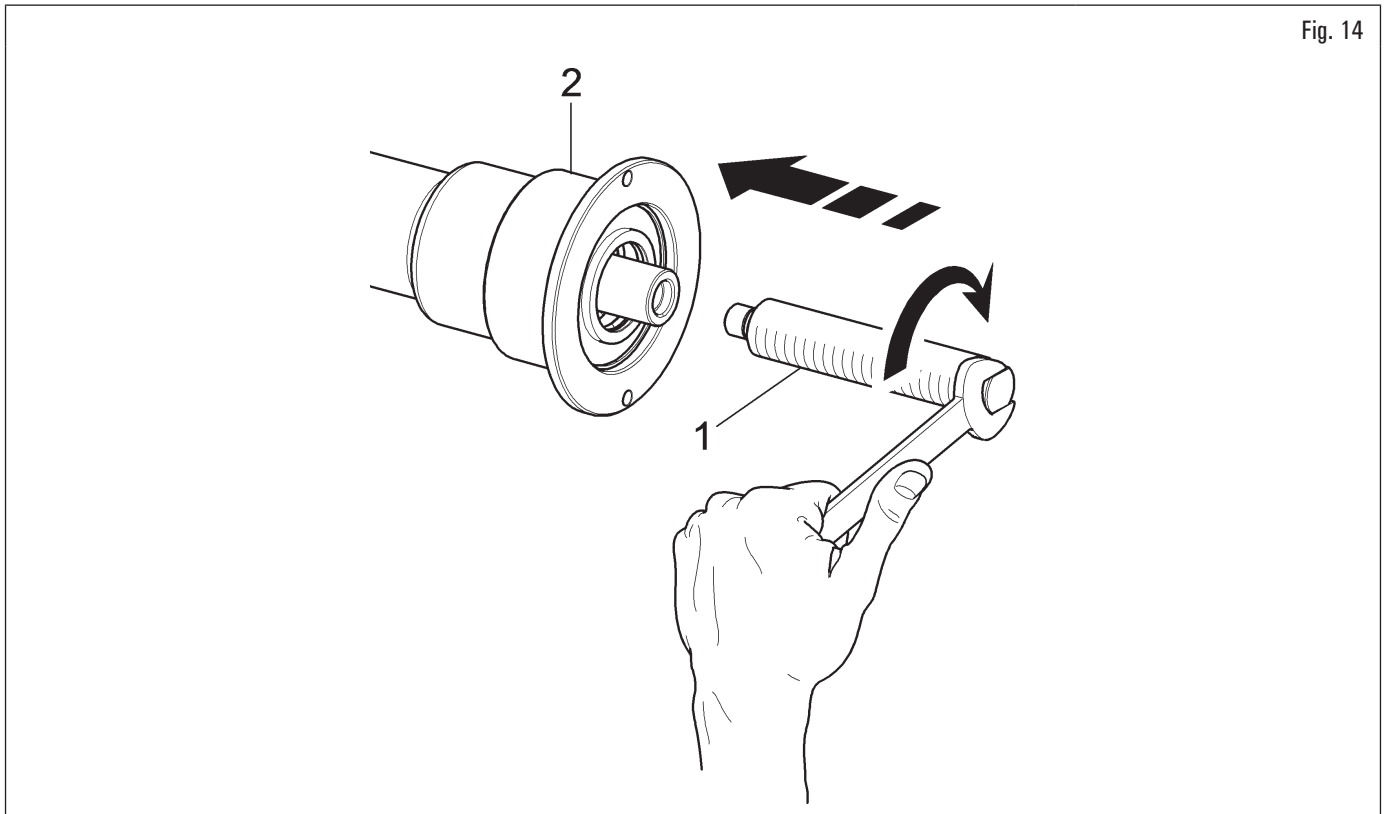

Fig. 14
Screw the spindle with an open wrench (Fig. 14 ref. 1) on the flange (Fig. 14 ref. 2).